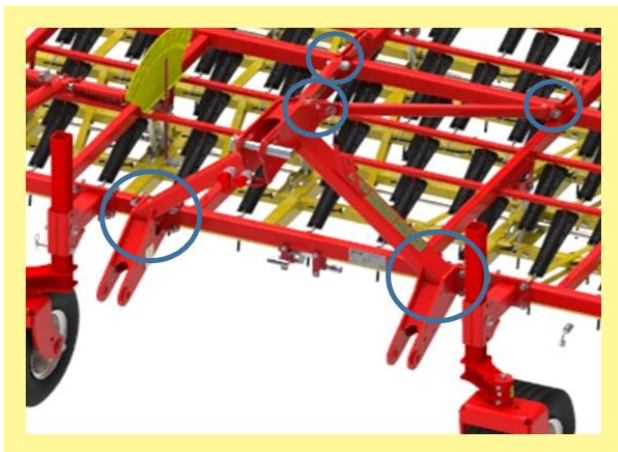

Figure 13: Dismounting the headstock
- 6) In the next step, the headstock is dismantled. To do so, the bolted connections marked in Figure 13 must be unscrewed on both sides.